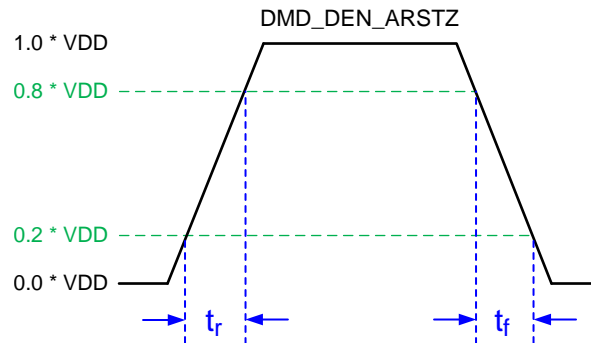

Figure 1. LPSDR Input Rise and Fall Slew Rate
(1) Specification is for DMD\_DEN\_ARSTZ pin. Refer to LPSDR input rise and fall slew rate in Figure 1.
(2) Specification is for SubLVDS receiver time only and does not take into account commanding and latency after commanding.